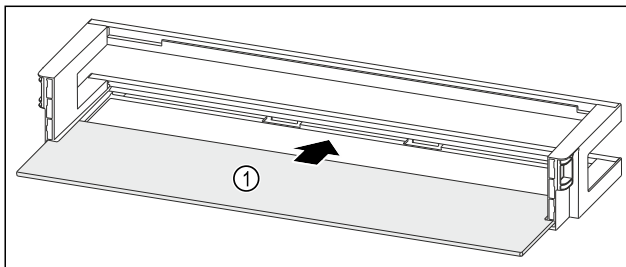

Fig. 92 Door rack with shelf
- Push the shelf Fig. 92 (1) into the side recesses.